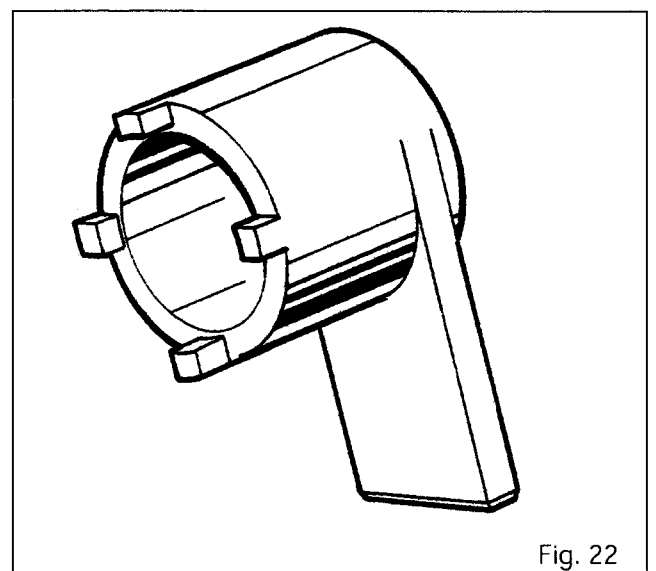

Fig. 22
**3376881M1 - Clamping tool for drive pinion nut, axles AG 105 - AG 125 (Fig. 22)**
**3376927M1 - Clamping tool for drive pinion nut, axles AG 85 (Fig. 22)**